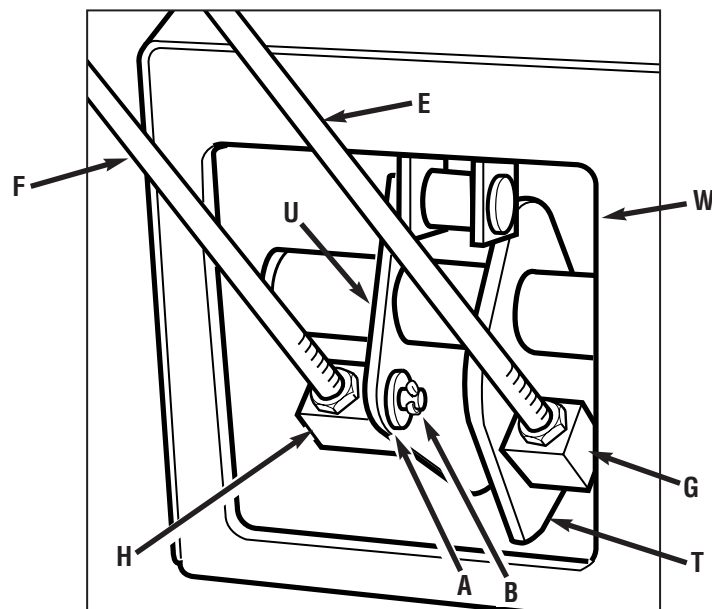
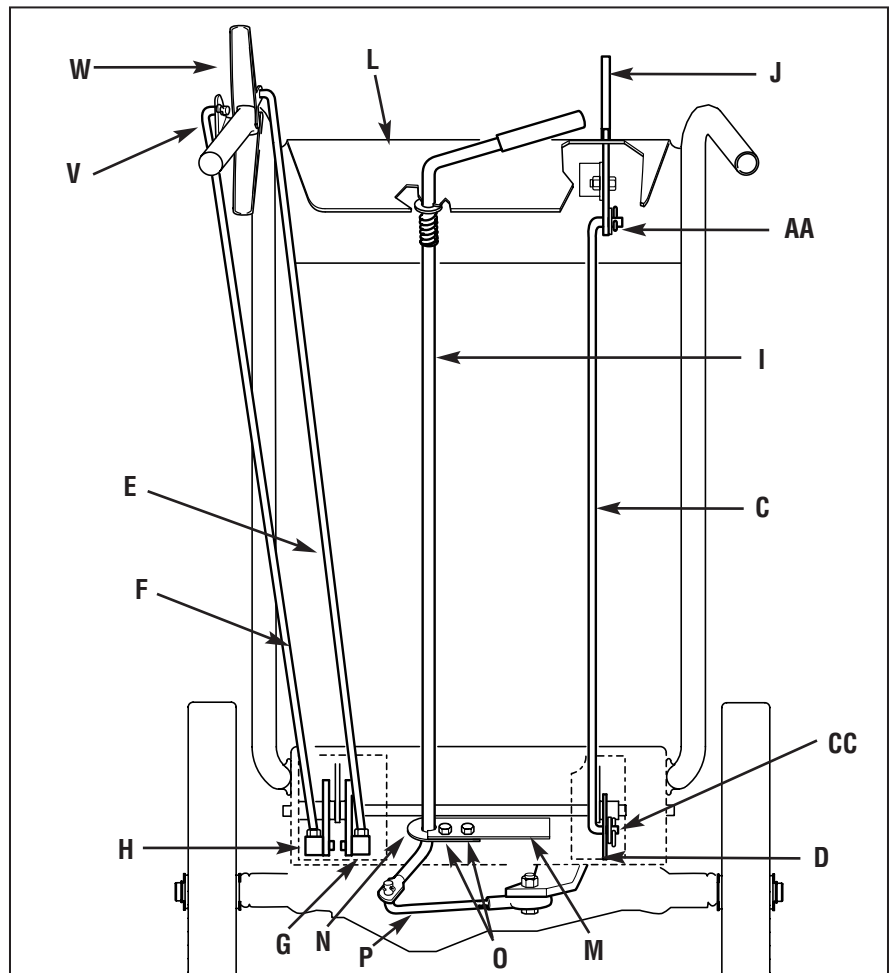
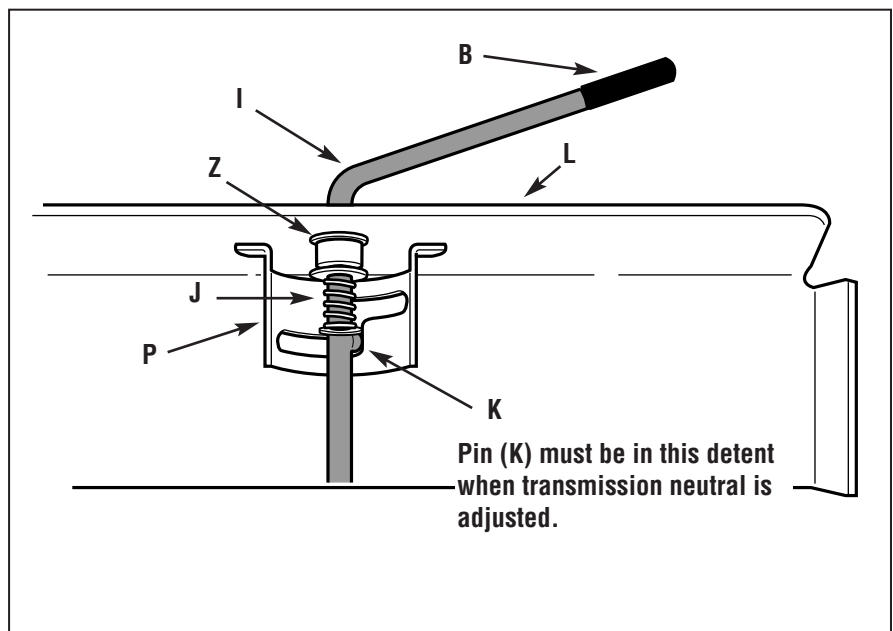
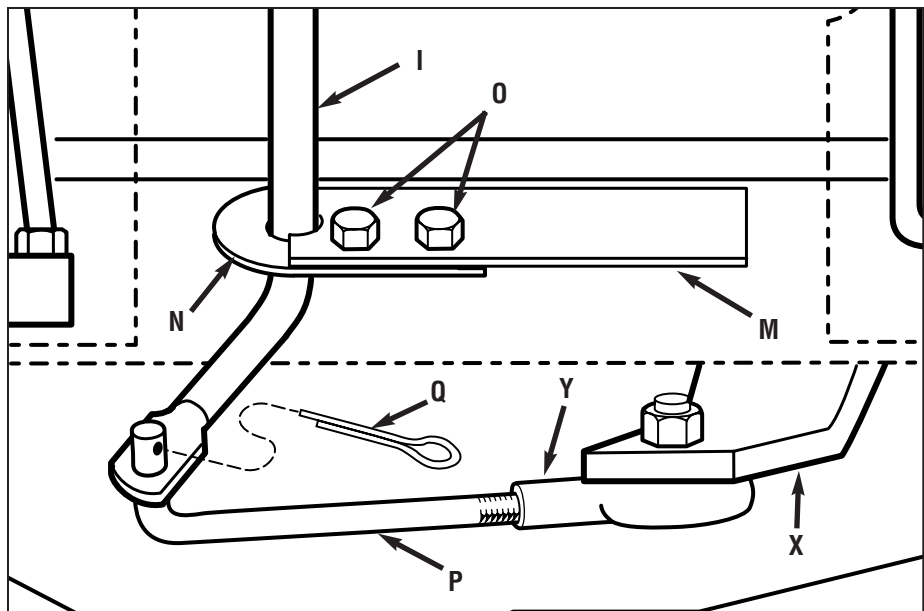

Figure 2-6: Left-hand control rods detail.
Figure 2-7: Rear view of control rods.
Figure 2-8: Detail - Gear Select Lever in Neutral (N) position.
Figure 2-9: Detail - Transmission Neutral Adjustment.
1. Locate the wheel drive control rod (F, Figures 2-6 & 2-7) that was removed from the left handlebar in Step 2. This rod has a swivel block (H, Figure 2-6) on one end.
2. At left side of engine deck, insert swivel block (H, Figures 2-6 & 2-7) on wheel drive control rod into wheel drive control arm (U, Figure 2-6).
3. Add a 5/16" washer (A, Figure 2-6) and attach with a cotter pin (B). Bend legs of cotter pin over rod to secure.
1. Locate control rod (E, Figures. 2-6 and 2-7) attached at upper end to Operator Presence Control lever (W, Figure 2-7).
2. At bottom of control rod, insert swivel block (G, Figures 2-6 & 2-7) into control arm (T, Figure 2-6).
1. Locate the blade drive control rod (C, Figure 2-7) that you removed in Step 2. Insert one end of control rod into blade drive bracket (D, Figure 2-7). Add one 5/16" washer and attach with cotter pin (CC). Bend ends of cotter pin to secure.
2. Insert upper end of rod into bottom end of Blade Drive Control lever (J, Figure 2-7). Add one 5/16" washer and attach with cotter pin (AA). Bend ends of cotter pin to secure.
1. Using the edge of a piece of flat wood (such as a ruler), remove the vinyl grip (B, Figure 2-8) from the gear select lever (I). Place the wood edge against the edge of the grip and slowly pull off the grip.
2. Insert nylon bushing (Z, Figure 2-8) up into console (L).
3. Slide spring and washers (J) down onto gear select lever.
4. Insert gear select lever (I) up through nylon bushing (Z) in handlebar console (L). Guide pin (K) on gear select lever into groove in shift quadrant (P).
5. Hold lower part of gear select lever (I, Figure 2-9) against bracket (M). Position retaining plate (N) from parts bag in place as shown in Figure 2-9 (plate below bracket). Secure plate with two 1/4"-20 x 1/2" screws (O) and 1/4"-20 locknuts.
6. Slide grip (B, Figure 2-8) back onto gear select lever (I).
7. Rotate gear select lever (I, Figures 2-8 & 2-9) clockwise until spur (K - short rod) on gear select rod stops in the neutral position detent on the shift pattern quadrant (Figure 2-8).
8. At bottom of control rod, thread shift link (P, Figure 2-9) partially into ball-joint (Y).
9. Move shift arm (X, Figure 2-9) from side to side as necessary into each transmission gear detent until transmission is in neutral.
NOTE: Moving shift arm (X) all the way to the left, and then one notch back to the right, should put transmission into neutral. When transmission is in neutral, unit will move freely when pushed while holding the Operator Presence Control lever (W, Figure 2-7) down. If transmission is NOT in neutral, there will be a slight drag on the wheels when pushing unit.
10. When shift arm (X) is in neutral position, rotate shift link (P) toward end of gear select lever rod (I). Adjust length of shift link (P) as necessary to fit into hole in bottom of gear select lever (I).
NOTE: Pin (K) on Gear Select Lever (I) must be held in the neutral position detent on the shift quadrant (see Figure 2-8) while shift link (P, Figure 2-9) is adjusted.
11. Insert hooked end of shift link (P, Figure 2-9) into hole in bottom end of gear select lever (I) and secure with cotter pin (Q). Bend ends of cotter pin. NOTE: It may be necessary to lift gear select lever (I) to install shift link (P).
12. Remove unit from shipping crate. To remove, hold down Operator Presence Control lever (W, Figure 2-7) which releases the wheel brake.
13. With unit on level ground, hold down Operator Presence Control lever (W, Figure 2-7) and push unit forward
and backward. The wheels should move freely. If not, adjust length of shift link (P, Figure 2-9) as necessary.
1. Move mower to a level area. Press and hold Operator Presence Control lever (W, Figure 2-7) to move mower.